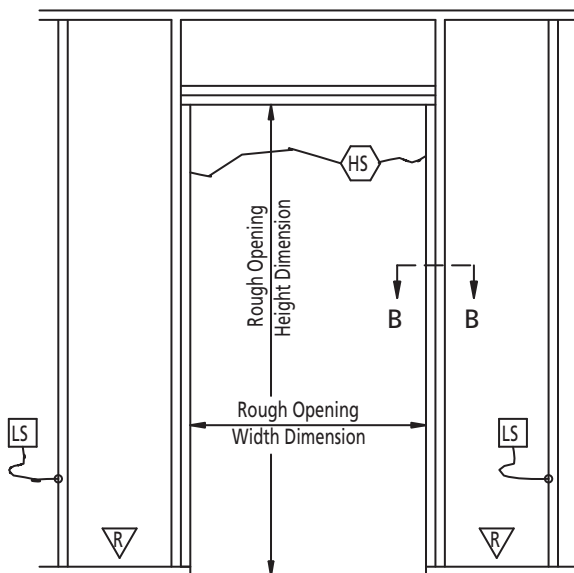

Fig. 2
2. Provide two 16 gage steel studs (back to back) on either side of the door frame. Refer to Fig. 2.